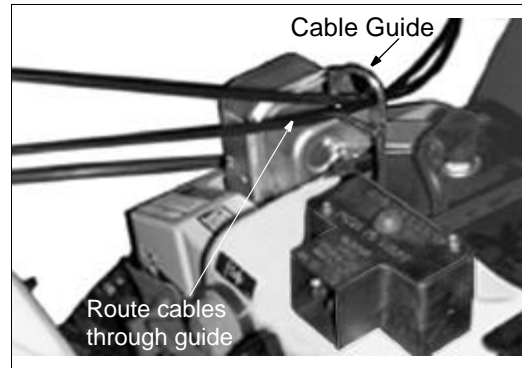

Figure 8
13. If not already attached, slip the cables that run from the handle panel to the chute into the cable guide on top of the engine. See Figure 8.